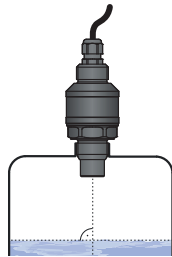

Fig. 1b: Recommended installation of the ULM-54 level meter in the tank using the bottom thread
- The level meter is installed in a **vertical position** on the console or into the upper lid of the tank or reservoir using a lug, a fastening nut or a flange in such a way that the axis of the device is perpendicular to the level of the measured liquid (Fig. 1b). The level meter shall be installed in places with no risk of mechanical damage to the front of the sensor.